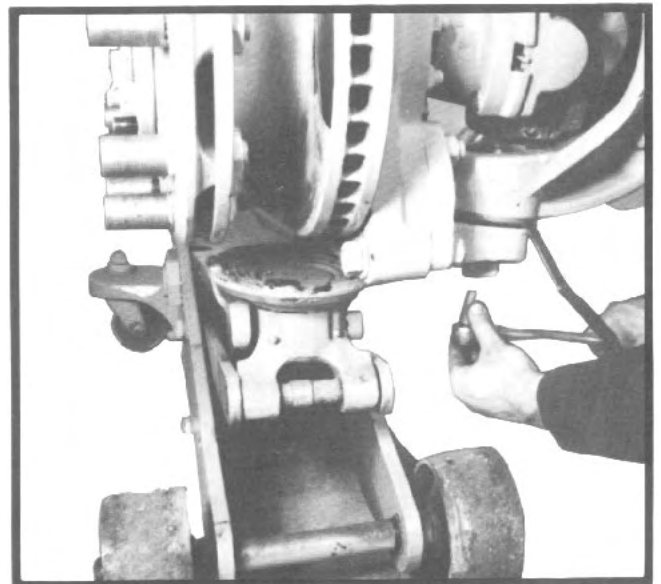

Fig. 5
5. Turn the lower kingpin ball stud upward until the stack of feeler gauges loosen (See fig. 5).